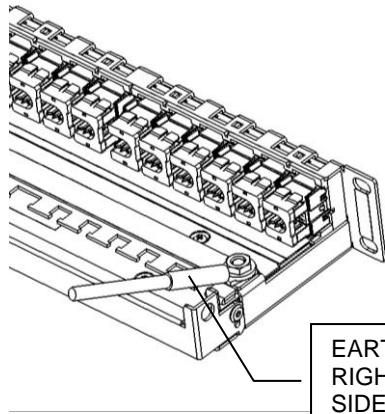

Fig. 9
1. Individually ground (earth) each patch panel to cabinet ground (earth) position by securing grounding lug to panel grounding stud (see Fig. 9).